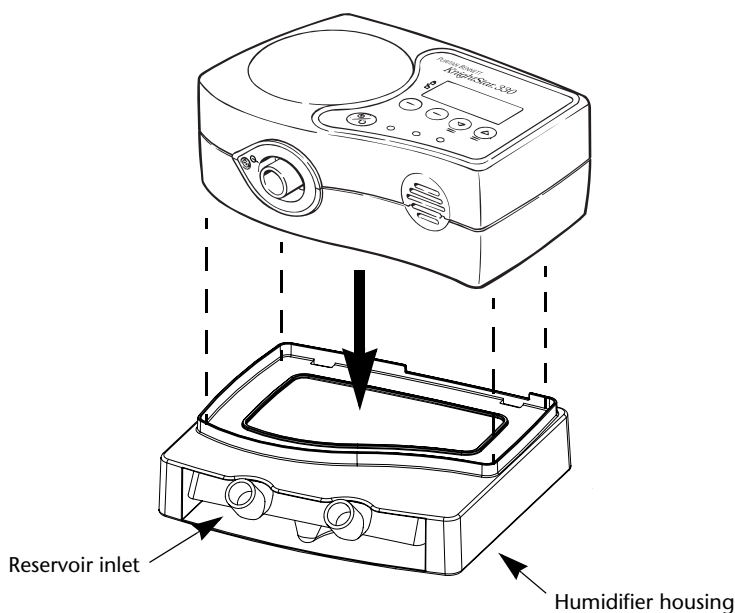

Figure 3-2. How to place the *KnightStar 330* onto the humidifier housing
1. Place the *KnightStar 330* on top of the humidifier housing and its reservoir (Figure 3-2).